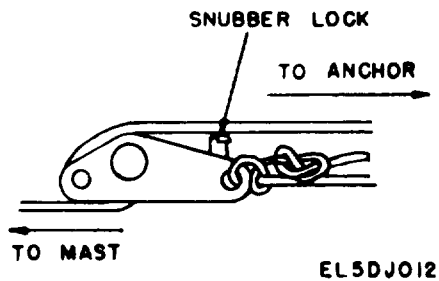

Figure 2-7 Removing guy from snubber lock.
- (1) Remove guy from snubber lock (fig. 2-7).